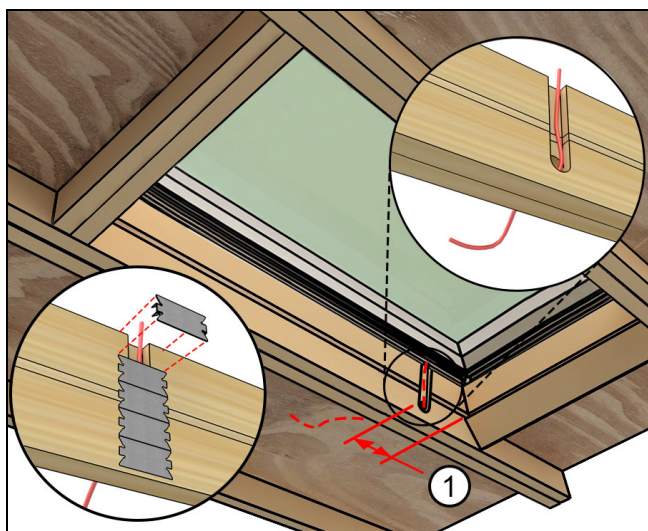

Figure 7
5. If installing an **Awaken** product, create a notch in rough opening for the power wire as needed. The center of the notch is nominally 1-3/8" to the sill RO edge. See Figure 7. Create notch large enough to run Romex cable per applicable electrical specification. Notch can be covered with plates as needed. If the drywall is not installed tight into the lining groove, add on-site insulation and trim for finished appearance and to prevent conditions that may contribute to condensation. Note: Electrician needs to meet or exceed local codes. Unshielded wire should be covered by plate, anything under 1-1/2" no plate is required. Electrical route may need to be notched.